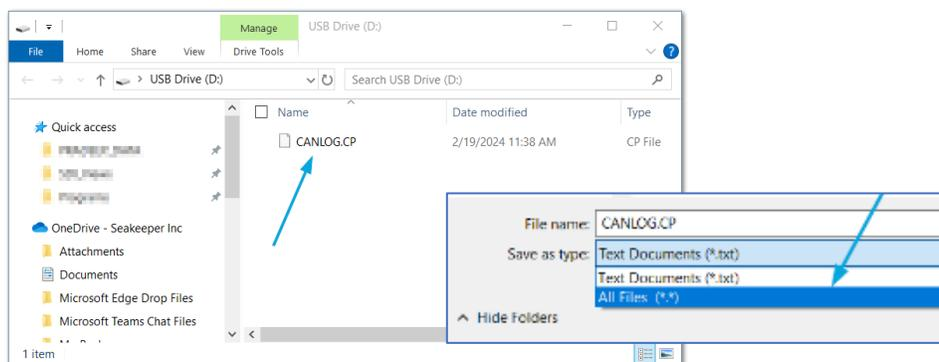

Figure 3: Flash drive plain text file created saved as file type: All Files
- c. **SAVE** blank Notepad file as 'CANLOG.CP' onto thumb drive (Figure 3).